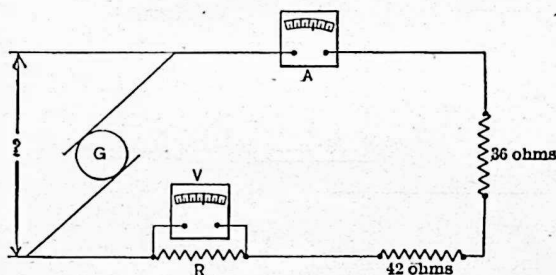

FIG. 39.
**Problem 16.** Ammeter (A), Fig. 39, reads 2.4 amp.; voltmeter (V) reads 41 volts.